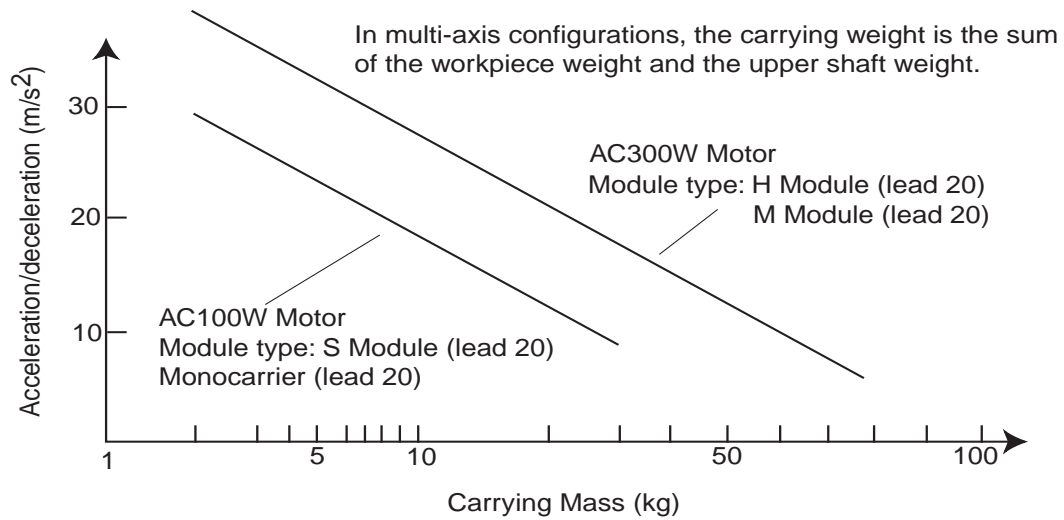

Figure 4-1. Acceleration Settings for Optimization
| | Max Acceleration | Maximum composite acceleration of robot. For start-up, the recommended acceleration is 10 m/sec*sec. For optimization, use the graph in Figure 4-1 . |
| Max accel | Specifies the maximum composite acceleration of the axes in programmed operation. The acceleration setting in the program is a percentage of this set value. Set this acceleration value according to the graph in Figure 4-1 . | m/s ² | 0.1 ~ 35 | 0.5 |
Refer to the setting procedures shown below. Specify the optimum acceleration for a given payload by referring to **Figure 4-1**.
- Maximum acceleration: Specify this parameter in the initial setting procedures and use **Figure 4-1** for optimization.